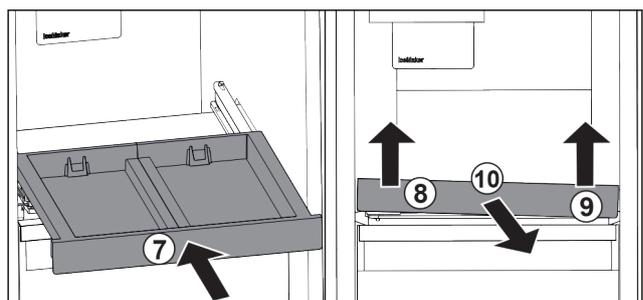

Fig. 30
- ▶ Slide in the pull-out board. Fig. 30 (7)
- ▶ Lift the pull-out board on the front left. Fig. 30 (8)
- ▶ Lift the pull-out board on the front right. *Fig. 30 (9)*
- ▶ Take out the pull-out board to the front. *Fig. 30 (10)*